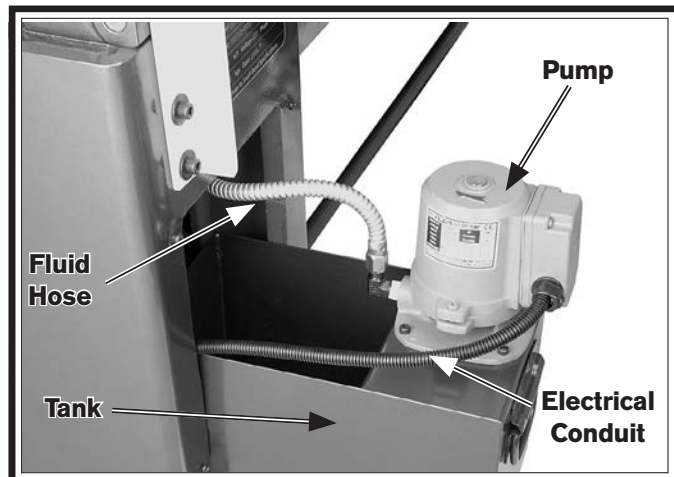

Figure 112. Coolant tank and pump.
2. Remove the vented access cover from the rear of the right stand, then slide the tank out, as shown in **Figure 112**.
6. To enable the remaining fluid to be poured out in the next step, disconnect the fluid hose from the pump (see **Figure 112**).